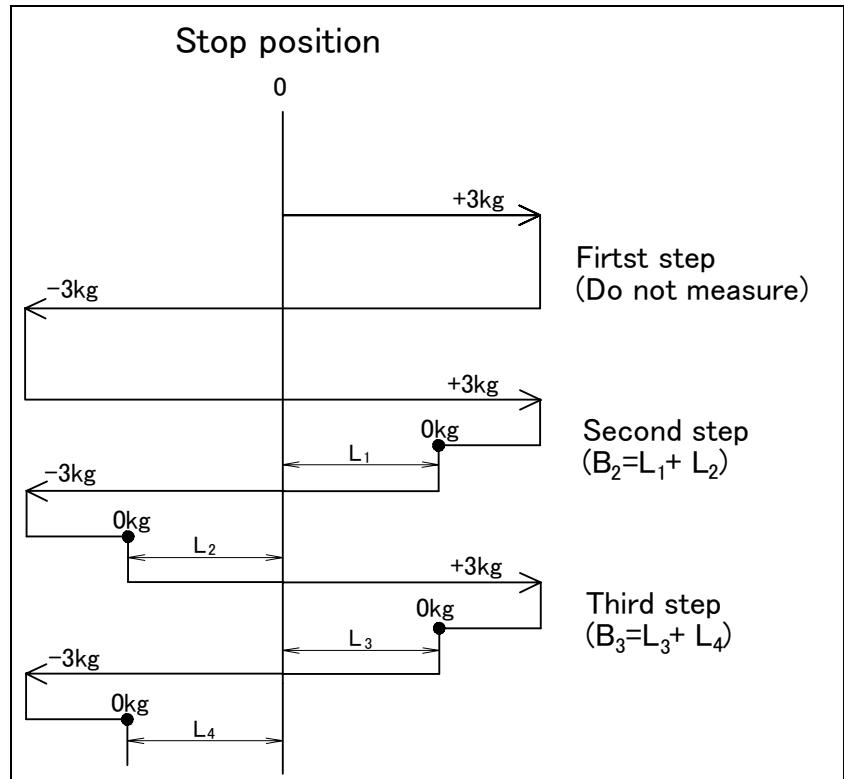

Fig. 3.3 (a) Backlash measurement method
- 2 Apply positive and negative loads to each axis as shown in Fig.3.3 (a).